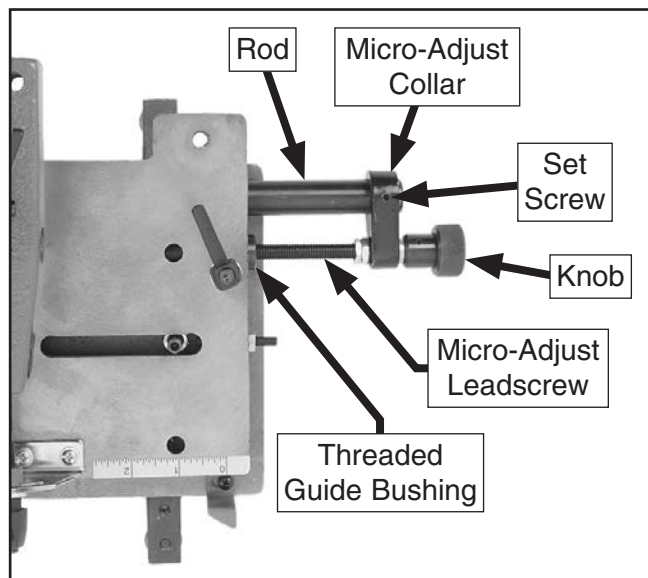

Figure 13. Micro-adjust assembly properly positioned.
8. Slide micro-adjust collar onto rod, align micro-adjust leadscrew with threaded guide bushing of slide plate, then rotate knob clockwise until collar is even with rod, as shown in **Figure 13**.